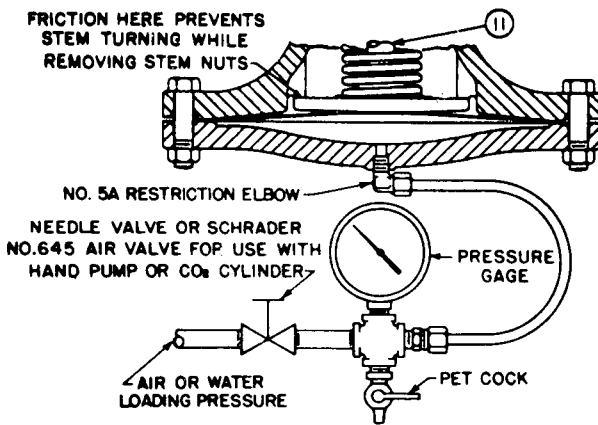

Fig. 5 - AIR LOADING ARRANGEMENT FOR REMOVING STEM NUTS
- e. Main Valve Diaphragm (20, Fig. 3C), may be broken. Test with air or water before dismantling. See Fig. 5 for method of applying pressure.
1. Connect a source of air or water pressure which can be adjusted by hand to the 5A Restriction Elbow. See Fig. 5.
2. Apply pressure to jack valve open and prevent Stem (11) from turning while moving Stem Nuts (5 and 6). Usually 50 to 60 psi will suffice. Use paraffin candle wax or penetrating oil on the threads.